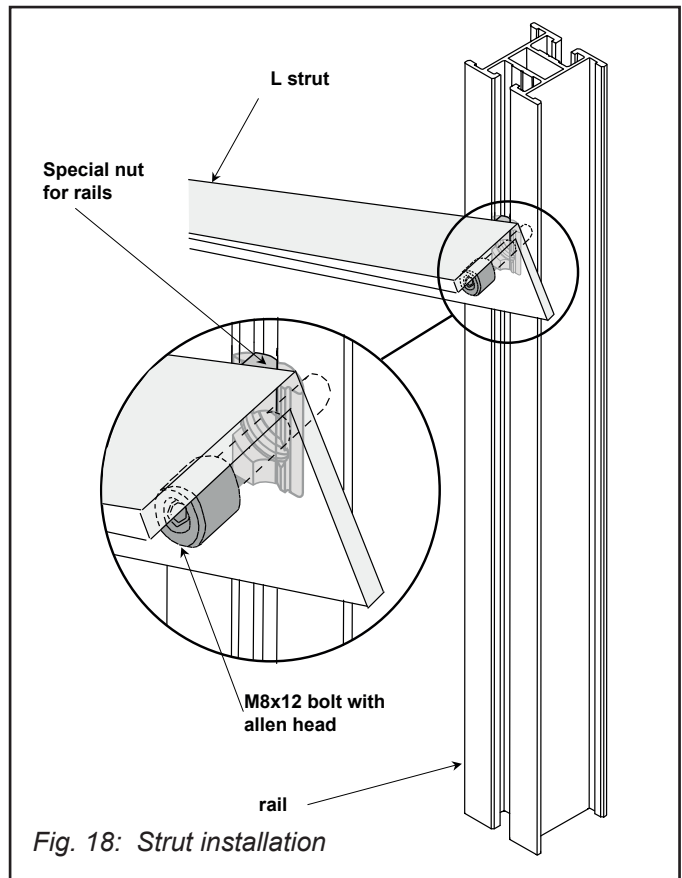

Fig. 18: Strut installation
- Fit the L-support of the triangle to the base rail using screws, serrated lock washers and nuts for rails (Fig. 18) and tighten the connections.
- Install the strut between the two triangular supports (Fig. 18). Following Fig. 18, insert special M8 nuts into the triangle support rail. Then lay the strut onto the rails and fasten it with M8x12 bolts with washers (Fig. 18).